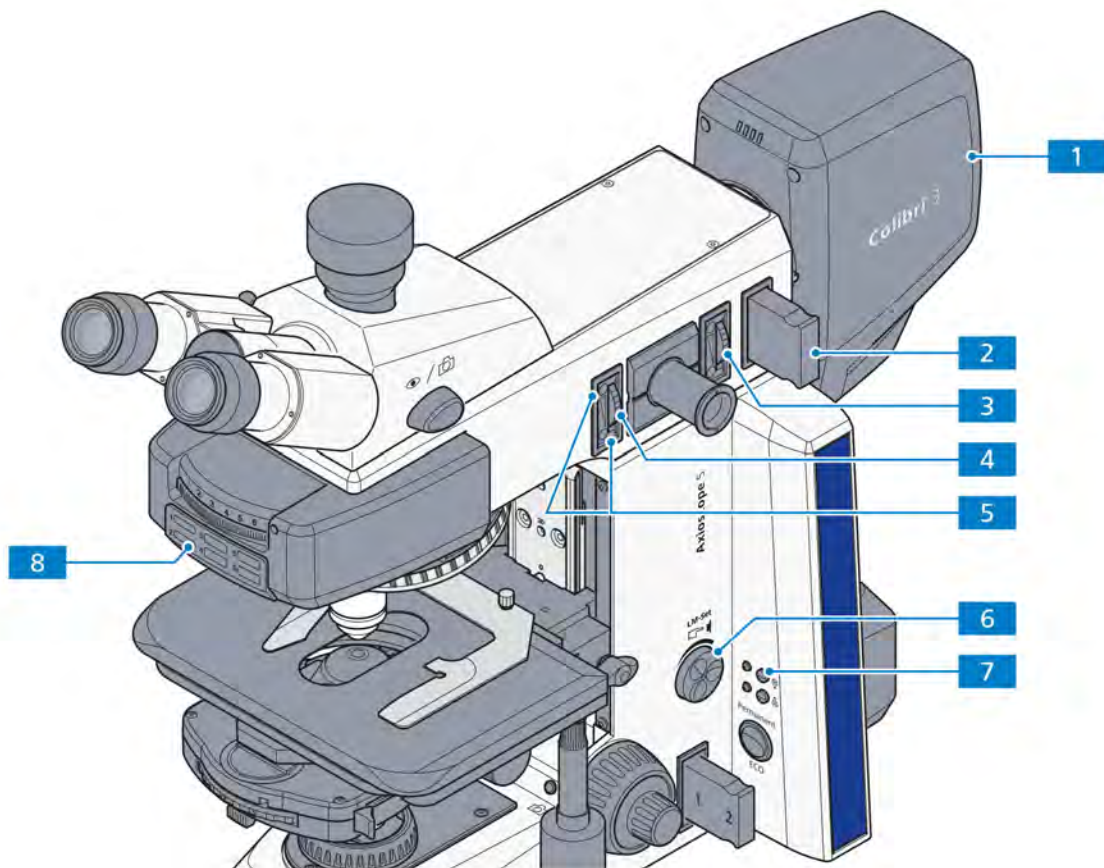

Fig. 4-20 Components for reflected light fluorescence
- Keep the light path in the reflected light illuminator blocked via the blocking position of the filter slider for reflected light (Fig. 4-20/2).
- Switch on the Colibri 3 illuminator (Fig. 4-20/1) by pushing the **RL** button (Fig. 4-20/7).
- Press the **Intensity/LM** button (Fig. 4-20/6) briefly for less than 1.5 seconds repeatedly to activate the required LED module or all LED modules of Colibri 3 together. The indicator light of the respective LED module on the Colibri 3 lights up when this module is switched on.
- On the reflector turret/slider (Fig. 4-20/8), choose the FL P&C reflector module with the desired fluorescence filter combination (depending on the excitation mode) and switch it on.
- Now unblock the light path in the reflected light illuminator with the filter slider for reflected light (Fig. 4-20/2).
- Open the aperture diaphragm (Fig. 4-20/3) enough to see the whole objective exit pupil.
- Replace the eyepiece in the tube and close the field diaphragm (Fig. 4-20/4) enough to make it visible in the field of view.
- Using both centering screws (Fig. 4-20/5), center the field diaphragm on the edge of the field of view.